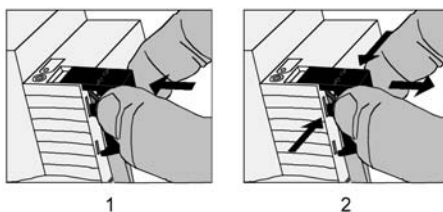

Figure 4: Installing / removing the protective cap for the bus connection
- To install the cap: slide the cap over the bus connecting terminal until you feel it engage (Figure 4).
- To remove the cap: Remove the cap by pressing the sides slightly and by pulling it out to the front (Figure 4).